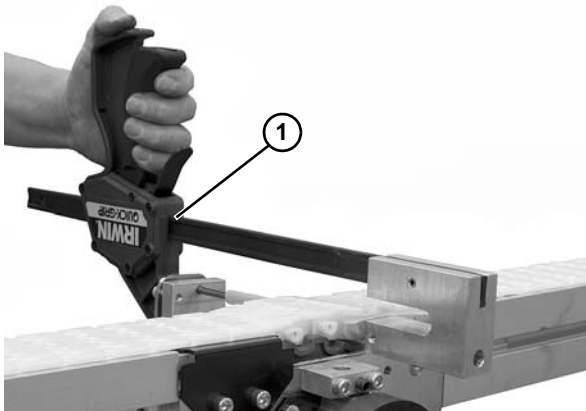

Figure 143
6. Use belt removal tool #203480 (**Figure 143, item 1**) or a punch and hammer to push the belt rod out by striking the rod end.